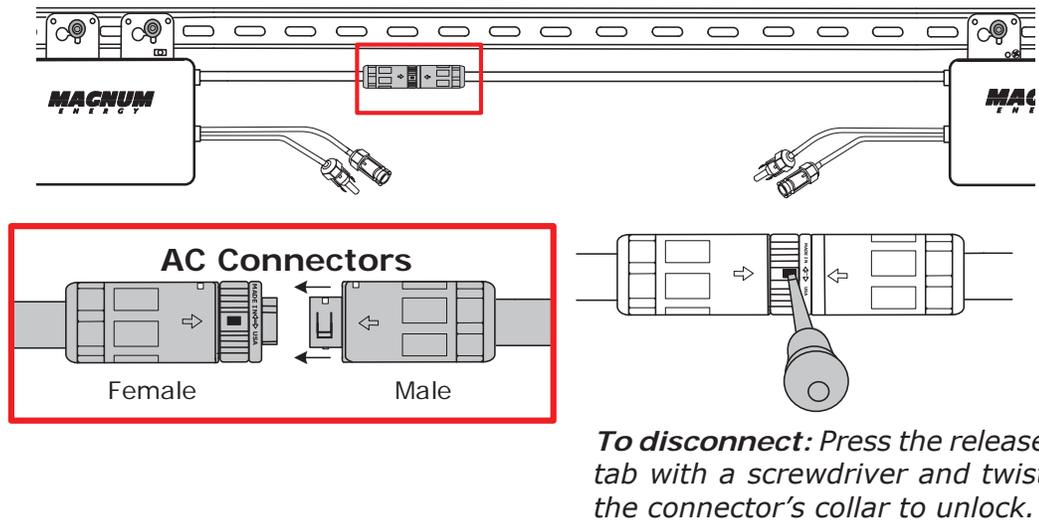

Figure 8, Connecting the MicroGTs via AC Connectors
2. Plug the female AC connector of the first MicroGT into the male AC connector of the next microinverter (Figure 8). Twist to lock. Repeat the process for the remainder of the microinverters installed in your system to form a continuous AC branch circuit.